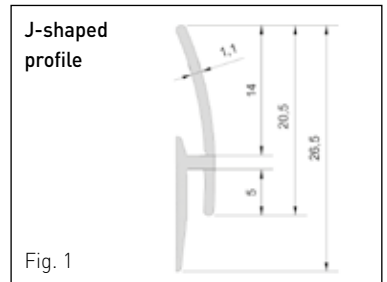

Fig. 1
- Spread the glue over the entire wall surface that was marked out earlier. Applying it to the wall instead of the panel avoids getting dust on the adhesive and reduces the open time (see Fig. 1).
- Horizontal finishing on top of DECOCHOC panels. (see Fig. 1 and 2).
- Apply the panel and the FIN'ALU profile at the same time to the wall that has been coated with glue (see Fig. 1).
- Position and glue the second panel on the other side of the mounting base in the same way as the first panel (see Fig. 1).